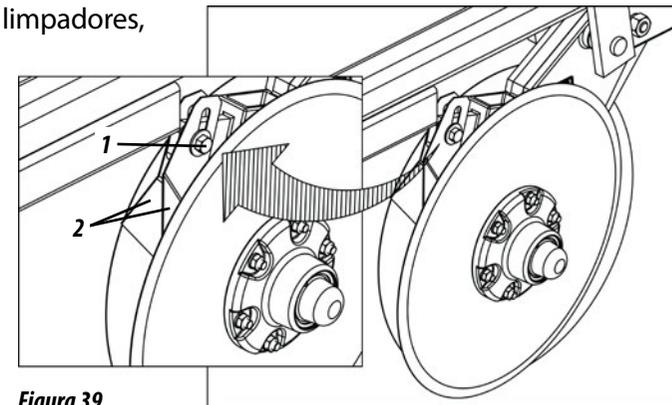

Figura 39
**REGULAGEM DOS LIMPADORES DO DISCO DUPLO ( FIGURA 39 )**